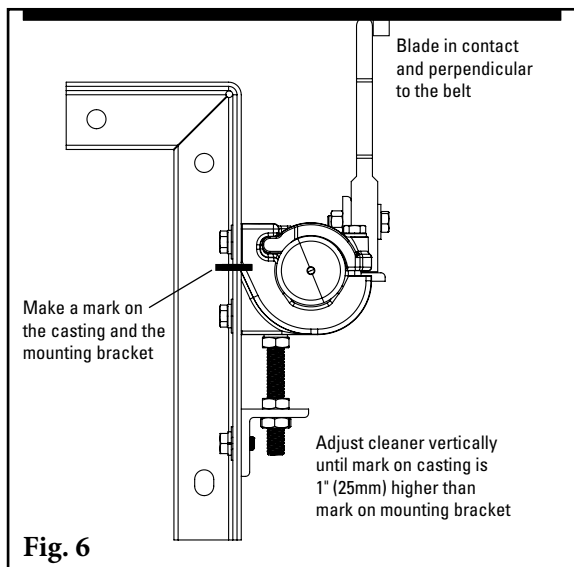

Fig. 6
6. **Set the tip angle and tension.** The fingers will be aligned perpendicular/right angle to the belt. Lock the pole in place by tightening the clamping block screws evenly. Adjust the cleaner vertically until making contact with the belt. Make a mark on the mounting bracket and clamping block on both tensioners. Adjust the cleaner 1" (25 mm) vertically. Tighten all clamp block lock bolts. Double check that all bolts and nuts on the cleaner are tight (Fig. 6).